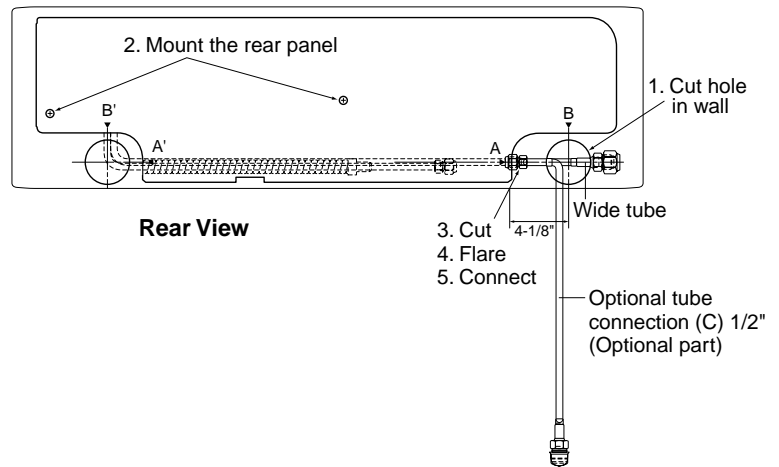
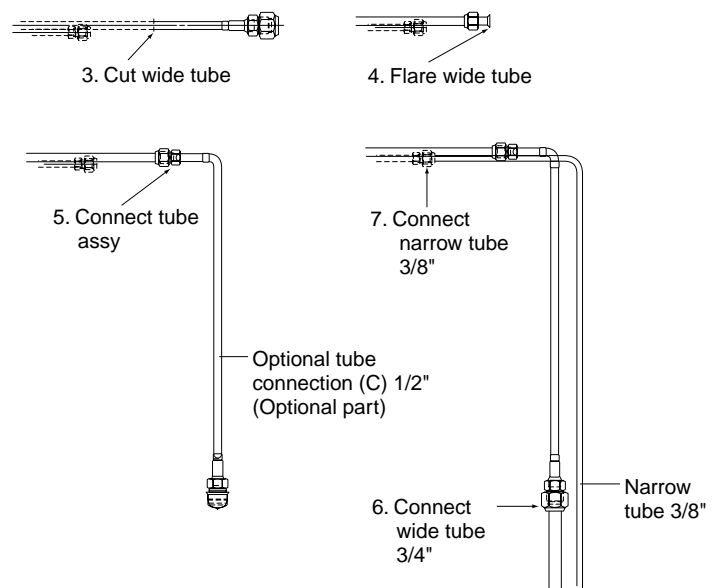

Fig. 30a
Fig. 30b
1. Make a 3-3/16" hole in the wall, centered on the crossing point between the triangle marks (A and B) on the rear panel. (Fig. 30a)
4. Remove the 1/2" flare nut from the optional tube connection (C), place it on the cut wide tube, and then flare the wide tube. (Fig. 30b)
5. Connect the optional tube connection (C) to the wide tube.
9. Make a 3-3/16" hole in the wall, centered on the crossing point between the triangle marks (A' and B') on the rear panel. (Fig. 30a)